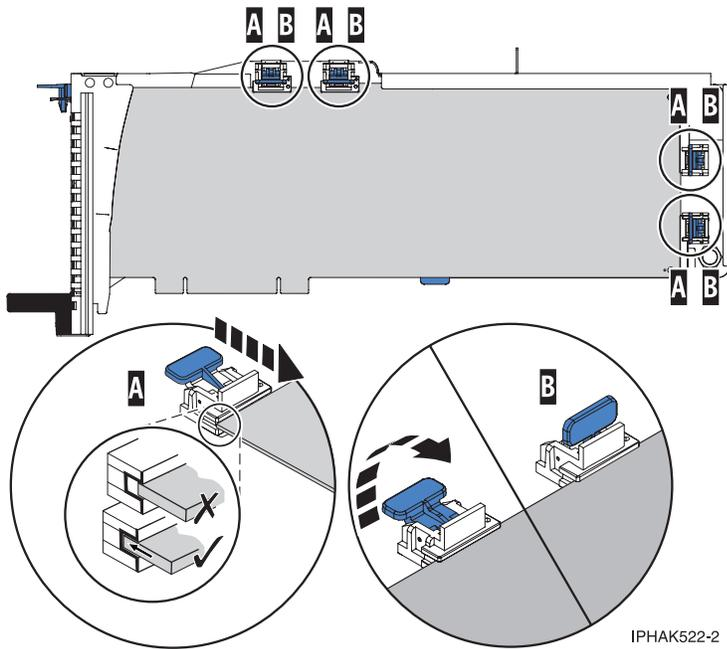

Figure 58. Large adapter in the PCI adapter cassette with the supports and stabilizer in place
- a) Place and lock the retainers (B). See Figure 58 on page 67.